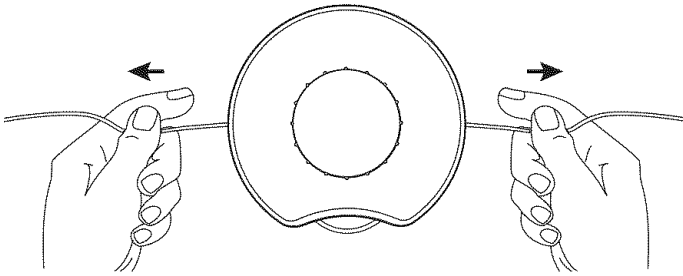

Fig. 14
3. Pull the ends through making sure that the ends are of equal length and the middle of the line is centered between the insertion holes (Fig. 14).